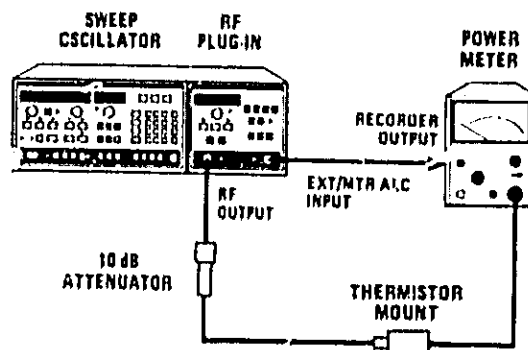

Figure 5-23. Power Meter Leveling Calibration
1. Connect equipment as shown in Figure 5-23. Ensure 8350A MOD is off. F. is CW and select a frequency at midband.